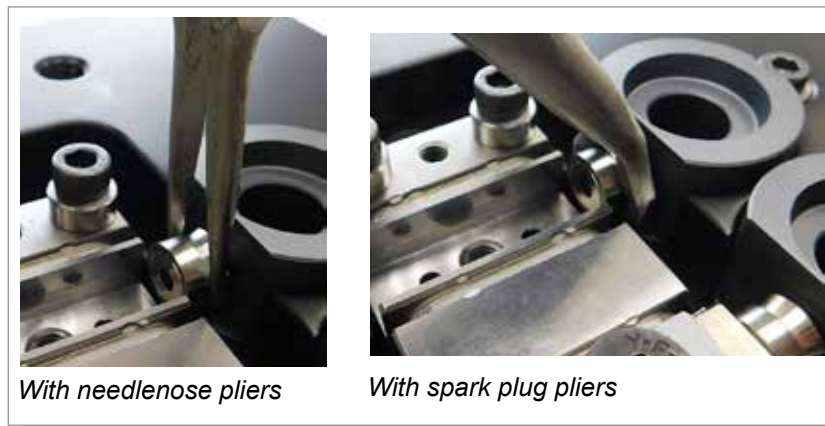

Figure 5-107 Remove the gate seal
5. Insert the extraction tool or pliers into the groove of the transfer seal, and gently twist the gate seal out of the cavity. See the following or Figure 5-107.